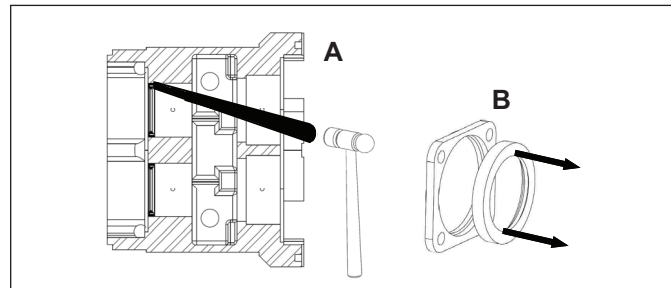

Figure 34. Removing Oil Seals
5. Remove all the shaft shims from the gear case and label which shaft and bore they came from. If the shafts are to be reused, they will need to be reinstalled with the original shims. Failure to do so could result in damage and misalignment in the pump body. Remove and discard the rear oil seals from the back of the gear case. Use a long, non-metallic rod and a soft mallet to punch the seal out from the front side (Figure 34, A). Remove and discard the front bearing seals from the bearing retainers by pressing them out (Figure 34, B). Clean the bearing retainers as they will be reused. Clean excess grease and sludge inside of the gear case before reassembling.